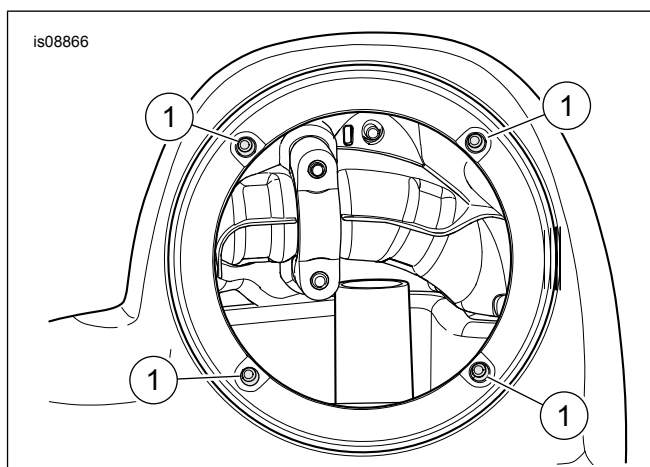

Figure 11. Captive Nuts
15. See Figure 11. Insert the four captive nuts from inside the large opening.